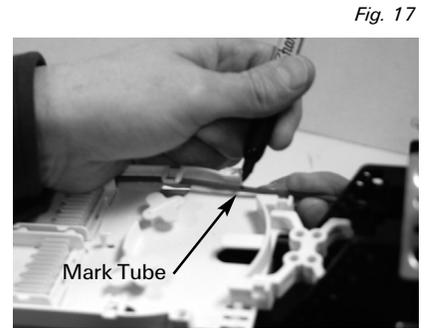

Fig. 17
2. Place the tubes to be spliced on the tray and place a mark on the tube 7/8" from the back of the tray (Figure 17). Allow enough slack for the tray to hinge. Ring cut the tube on the mark and remove buffer tube or excess transportation tube. Clean fibers with approved cleaning solution.